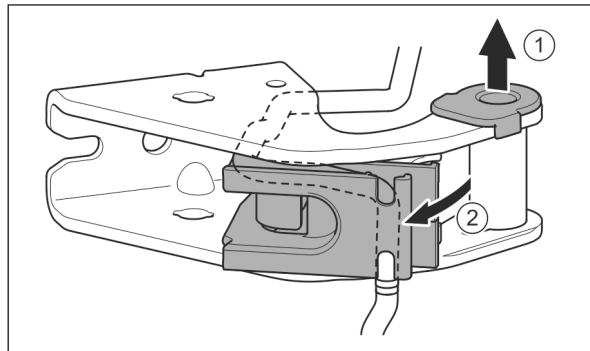

Fig. 24
- ▶ Pull the bearing bush out of the guide. *Fig. 24 (1)*
- ▶ Swing the cable holder out. *Fig. 24 (2)*